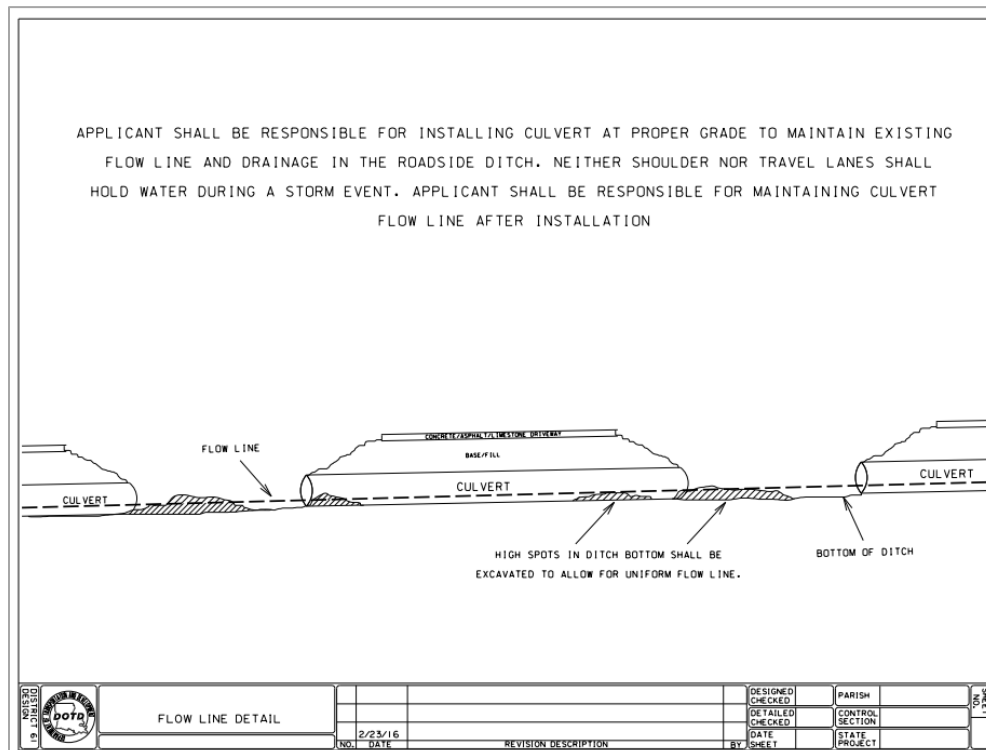

Figure 1.6: Default District Drainage Note / Flow-Line Sheet. Plan dated 2/23/16. (See Section 1.6.4 for Sheet Details)
- *(As needed)* Drainage note and flow-line sheets, as needed. District-specific example (Figure 1.6)